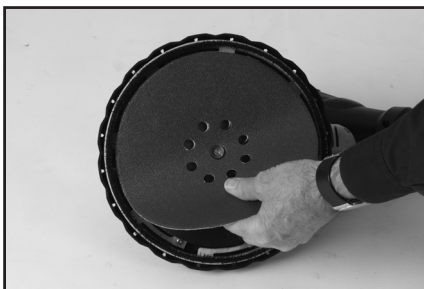

Fig. 2
- Be careful to ensure that the nine (9) holes in the abrasive sanding disc line up perfectly with the nine (9) holes in the Backing Pad. (**Fig. 2**)